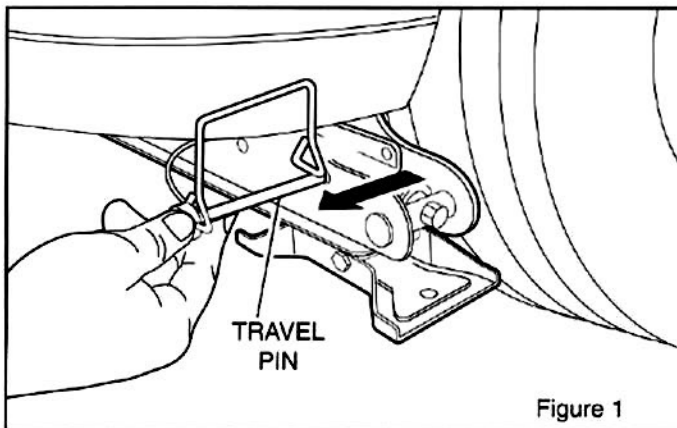
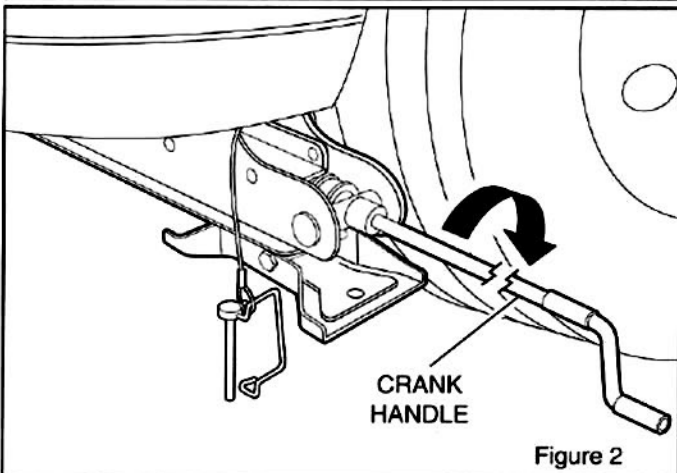

Figure 1
Figure 2
STEP 2. Remove the travel pull pin. See figure 1. Engage the crank handle with the hex portion of the drive screw. See figure 2. Turn the handle clockwise approximately 12 complete revolutions until the drop leg is released from the locked travel position.